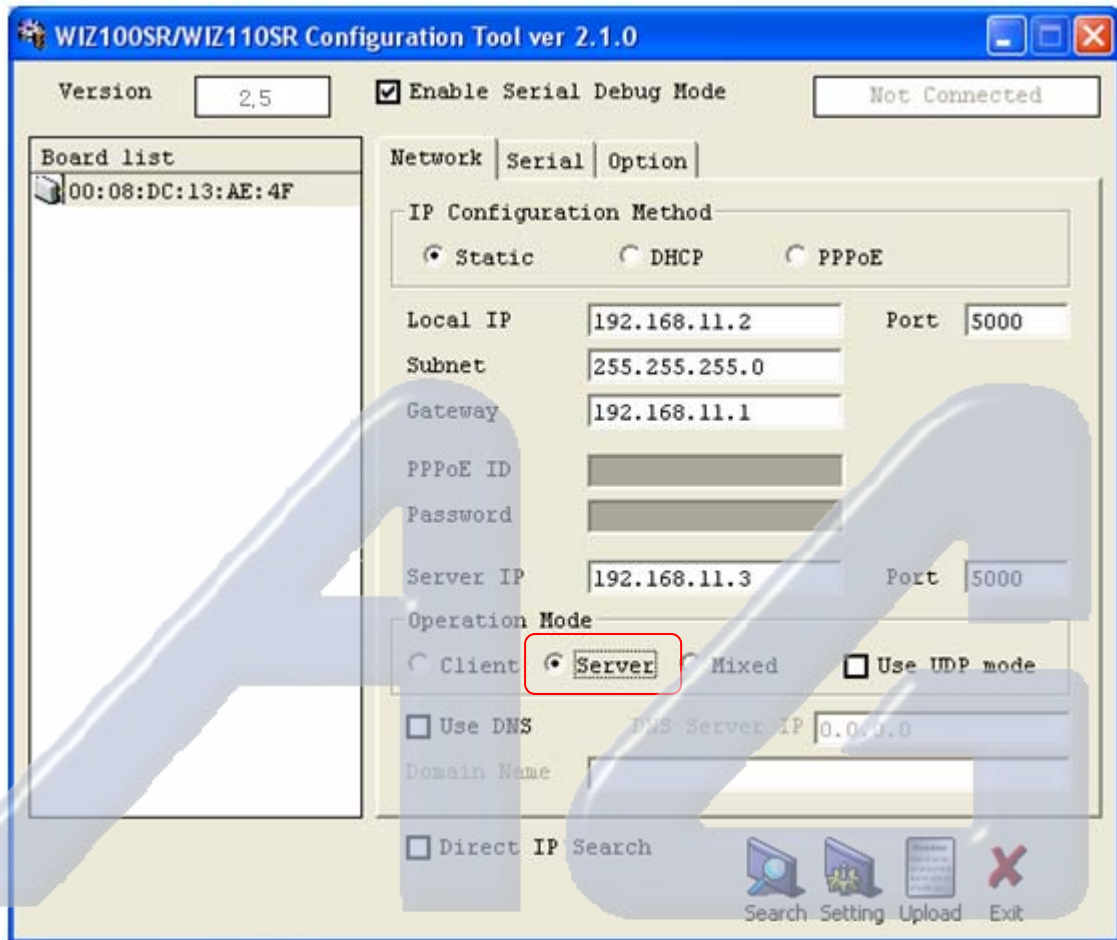

Figure 9. Select Operation mode for Password setting
3. As shown in Figure 9, select Option tab and check 'Enable' combo box of "Password" menu.